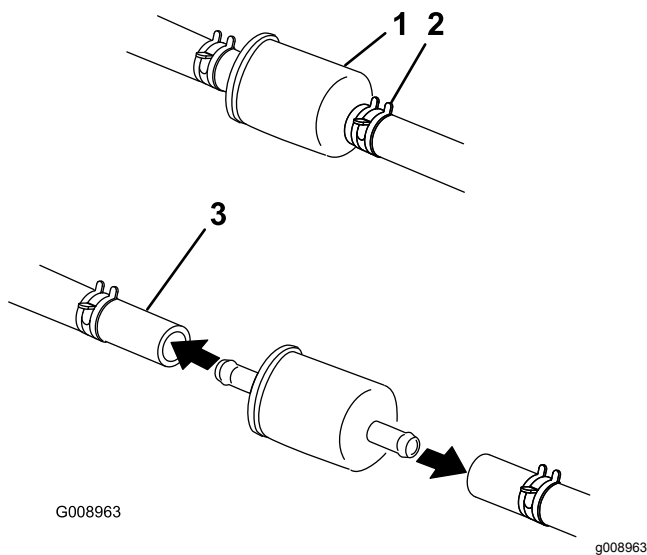

Figure 60
5. Close the fuel-shutoff valve under the seat (Figure 60).
6. Squeeze the ends of the hose clamps together and slide them away from the filter (Figure 60).
8. Install a new filter and move the hose clamps close to the filter (Figure 60).